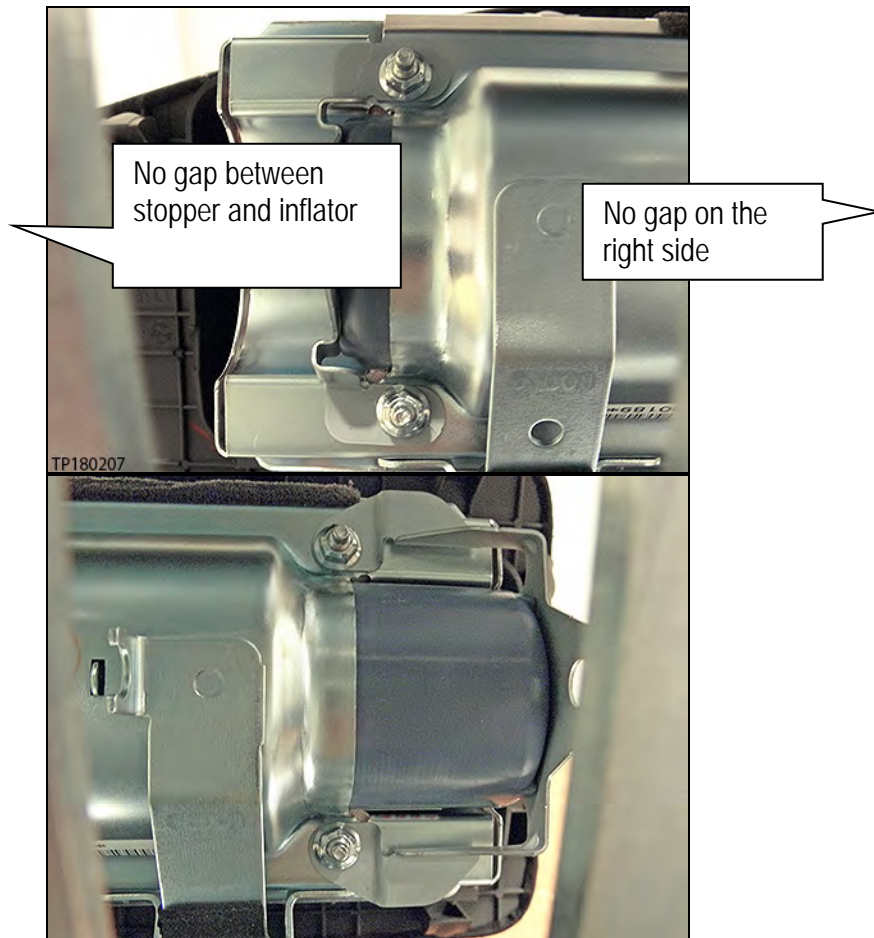

Figure 39
47. Make sure the inflator is pushed all the way into its housing – no gap on the right side (see Figure 39).
48. Make sure there is no gap between the inflator stopper and the inflator on the left side (see Figure 39).